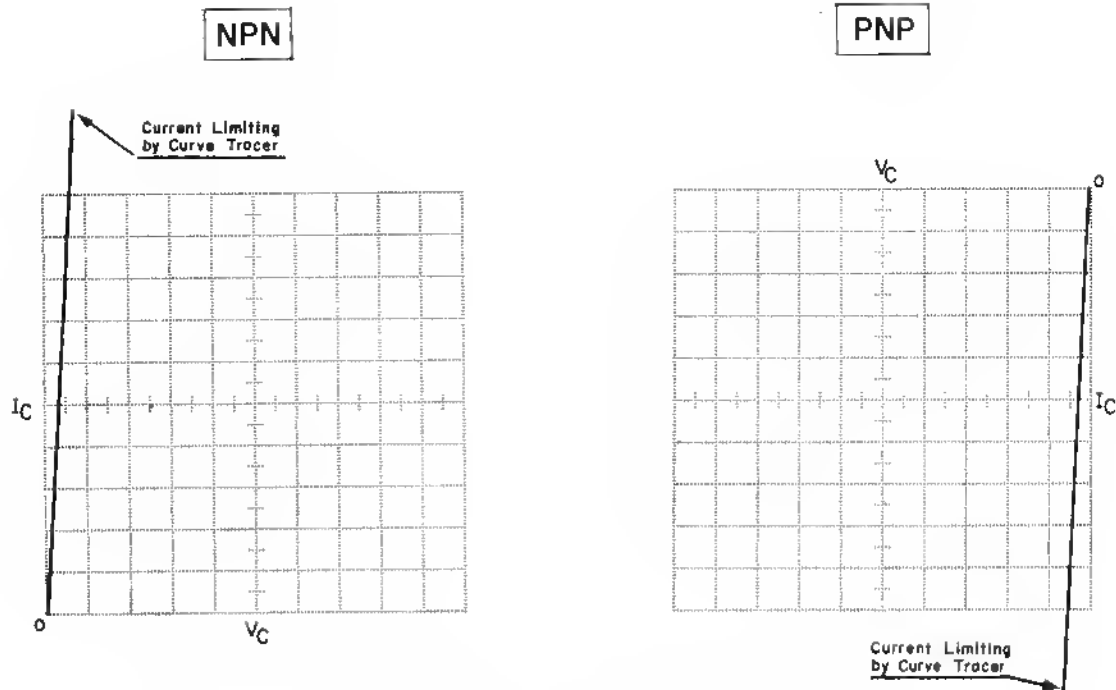

Figure 12. Shorted Transistor Curves
6. If the transistor is shorted there will only be a vertical trace (see Figure 12). The current (vertical trace) increases sharply to the current limiting value determined by the curve tracer. There is no family of curves, since the value of base current applied has no effect.